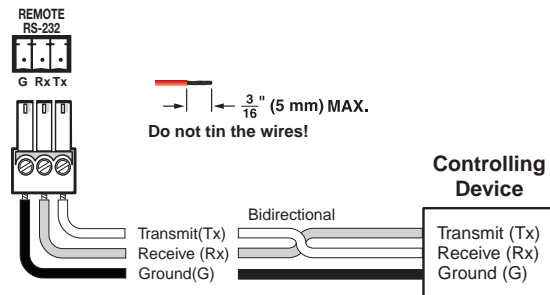

Figure 2. Remote RS-232 Wiring
- b. For serial RS-232 control, connect a host device or control system to the 3.5 mm, 3-pole captive screw connector (see ⑥ on page 1). Wire the connector as show in figure 2.